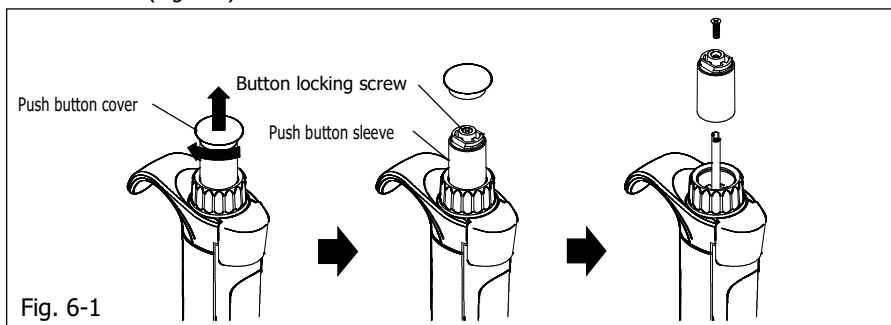

Fig. 6-1
- 2) Turn the push button cover in the direction of the arrow and remove it. (Fig. 6-1)
- 3) Remove the button locking screw with a screwdriver, and remove the push button sleeve. (Fig. 6-1)